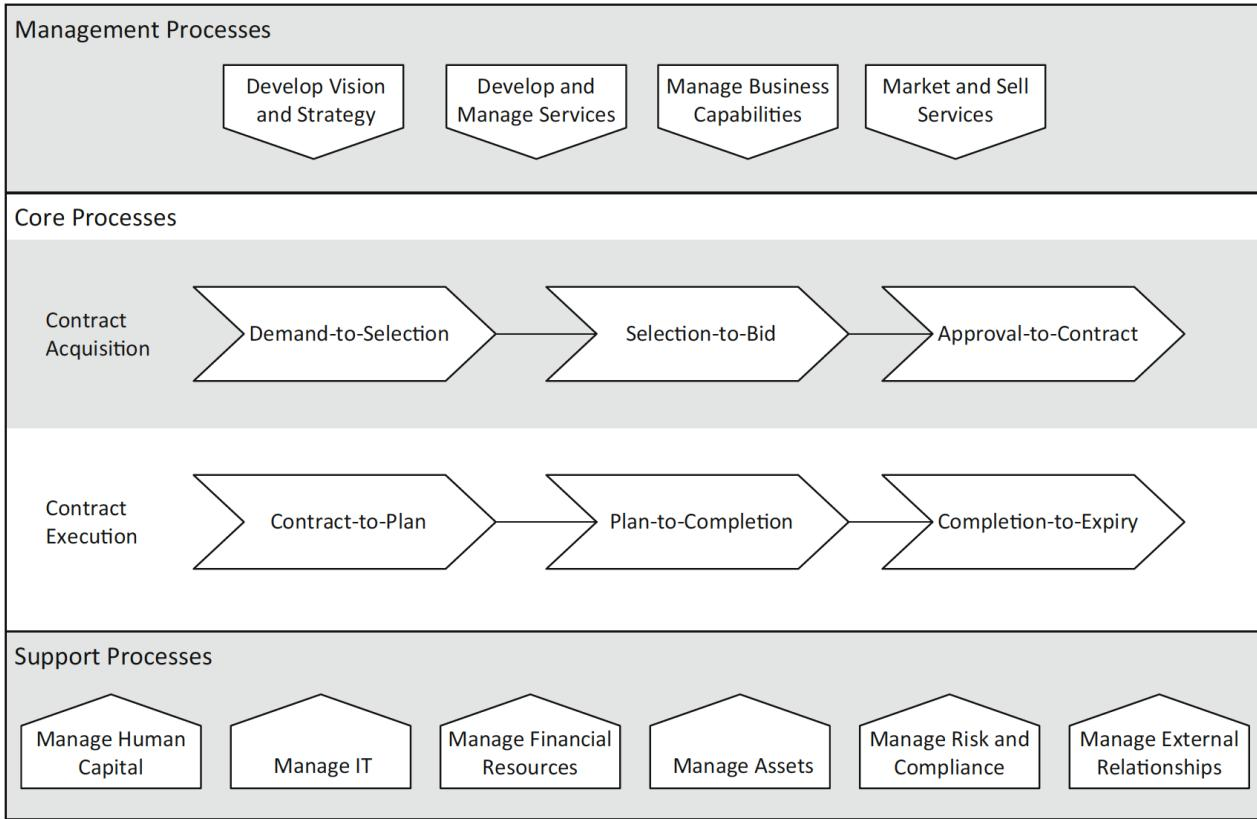

Fig. 2.8 Process landscape model of BuildIT
7. Check completeness and consistency: Finally, we have to check if all major departments of BuildIT are represented. The result is shown in Figure 2.8.